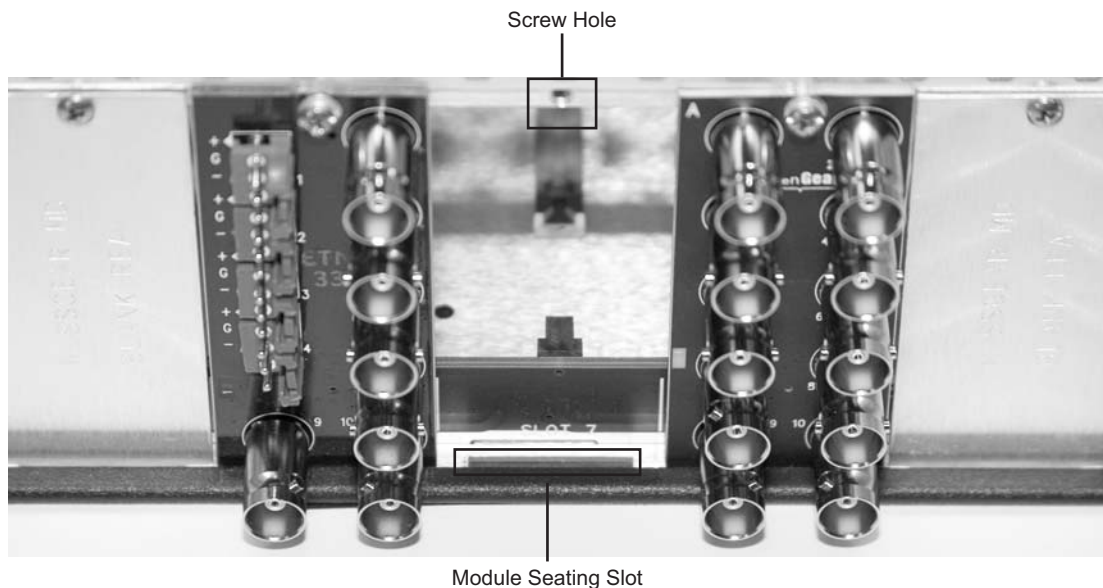

Figure 2.1 Rear Module Installation in a DFR-8300 Series Frame (VDD-100 not shown)
3. Install the bottom of the Rear Module in the **Module Seating Slot** at the base of the frame’s back plane.(**Figure 2.1**)